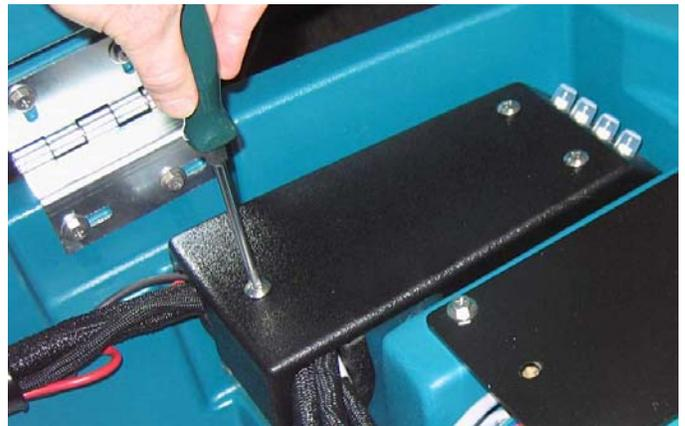

Fig. 22
- Replace the circuit breaker box cover (Figure 22).